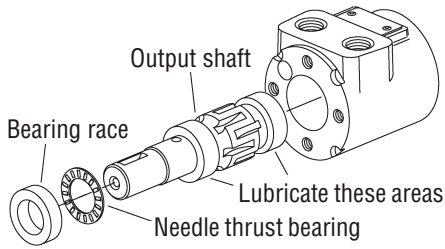

Figure 5-30, Output Shaft
4. Lubricate the output shaft with hydraulic oil, then install the output shaft into the housing. (Figure 5-30)